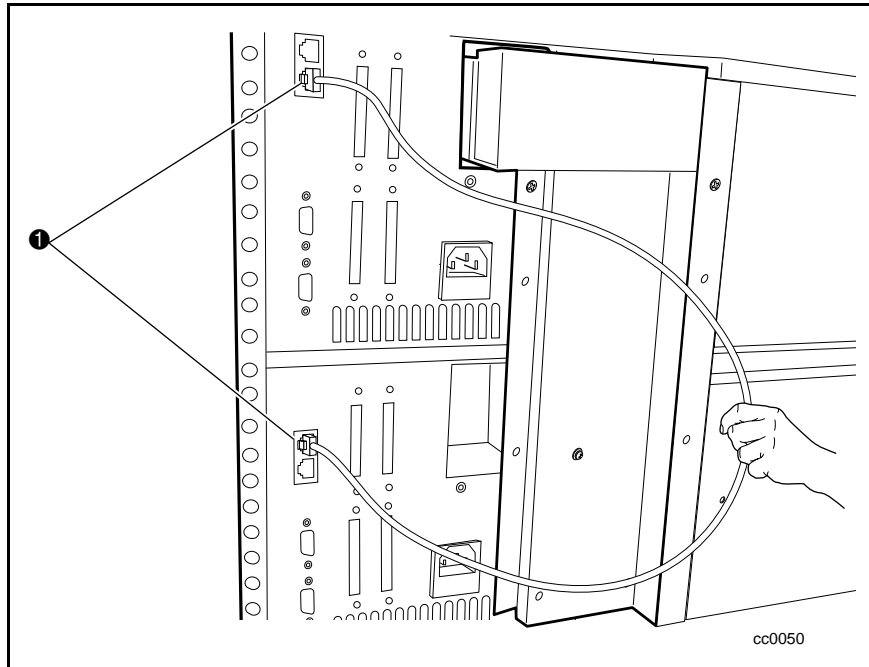

Figure C-33. Connecting a patch cable
1. Attach a patch cable to one expansion port on the master unit (❶ Figure C-33).